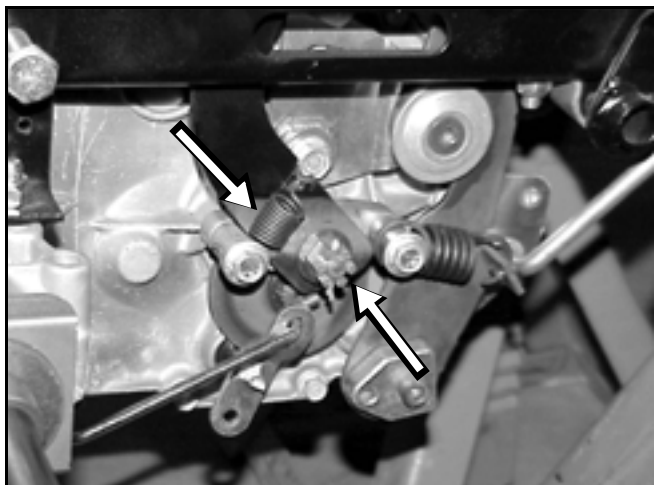

Figure 127
8. Unhook the small spring on the brake arm. Pull the cotter pin out of the crown nut on the brakes and remove nut to disconnect the brake arm from the transaxle (Figure 127).